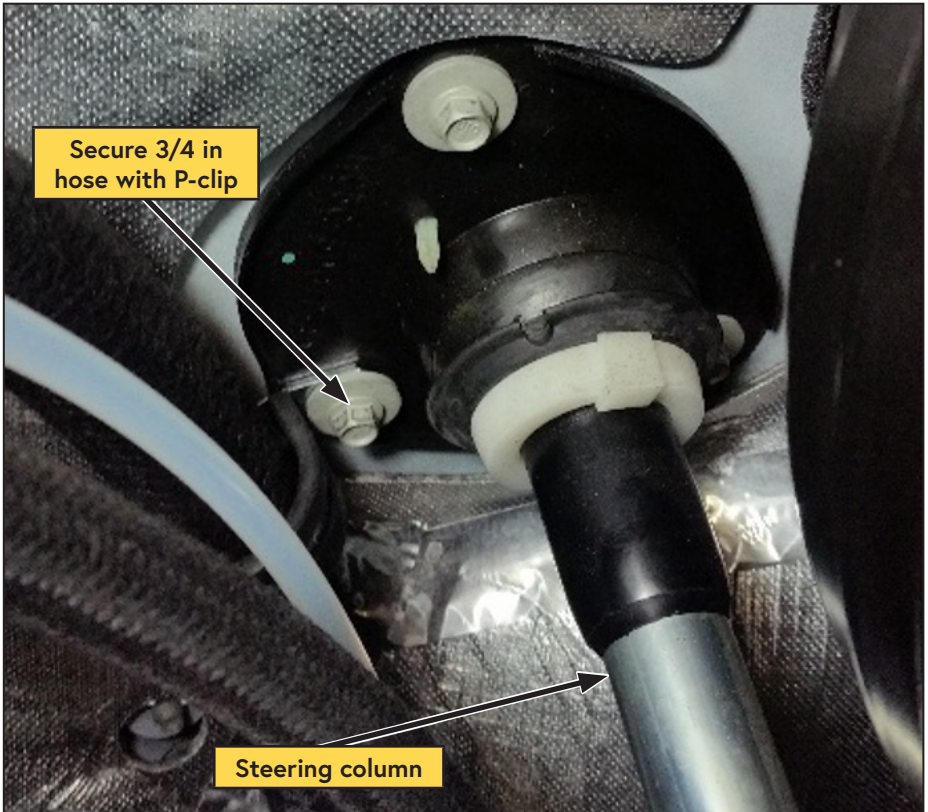

Figure 28 — Hose routing
- Secure the hose to the lower bolt on the steering column's firewall plate using the supplied P-clip (Figure 28).